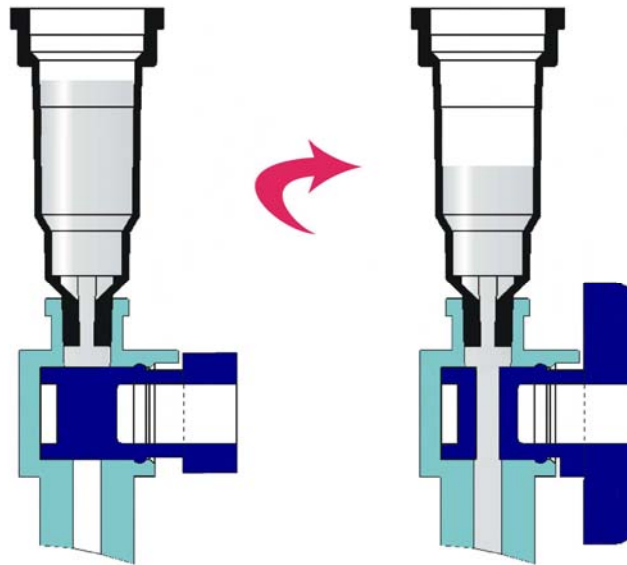

Figure A.1. Full OFF
8. Apply vacuum to the columns by rotating the blue valves clockwise to the vertical position (Figure A.1). The Vacuum Dial (on the manifold base) can be used to adjust the amount of vacuum applied to the columns and hence, the rate of liquid flow through the columns.